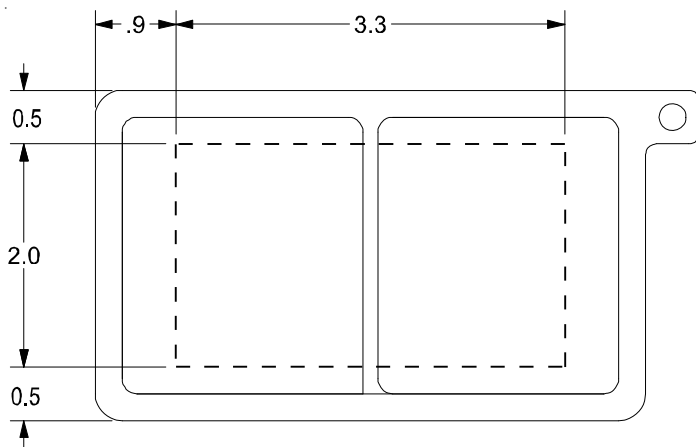

Figure 6
*See Figure 6 for all three phase installations.*
For all three phase applications, cut the circuit breaker cover along the dotted lines, as shown in Figure 6.